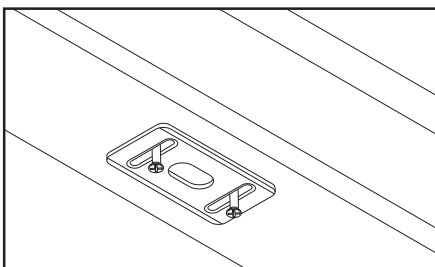

Figure 2c
After the double door is properly aligned, use the astragal bolts to mark and drill $\frac{3}{8}$ " diameter x 1- $\frac{3}{8}$ " min. deep hole through the head jamb and $\frac{5}{8}$ " diameter x 1- $\frac{3}{8}$ " min. deep hole through the sill, per **Figures 2c, 2d, and 2e**. Pre-drill (2) $\frac{1}{16}$ " pilot holes for the mounting screws for the head jamb. Install the retaining plate in the head jamb using the included hardware and insert the grommet into the $\frac{5}{8}$ " diameter hole in the sill.